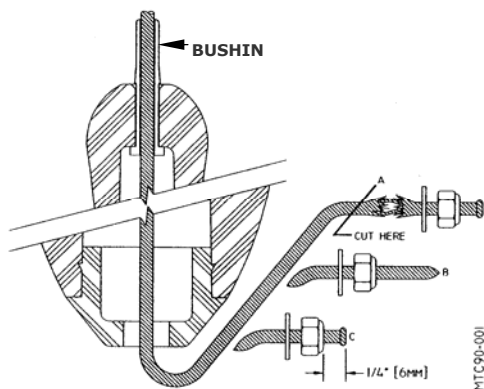

Figure 2-6a, Duck Pin String Repair
4. Any string which is frayed or worn should be repaired or replaced as illustrated in Figure 2-6a & 2-6b.